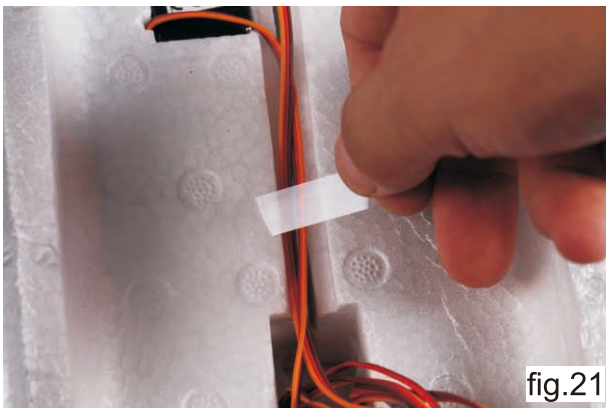

fig.18
- 16) Repeat the same gluing process for the front bolt plate. It only fits correctly in one direction (fig. 18).